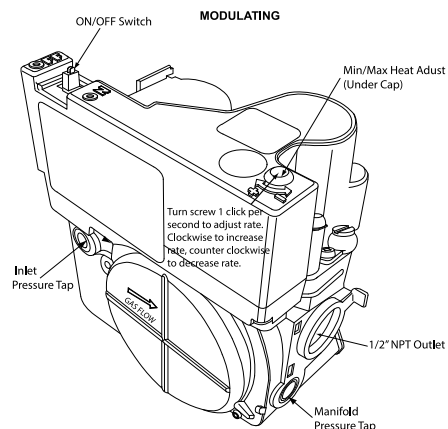

Fig. 64 – Gas Valve without Tower Pressure Ports
9. To adjust the Maximum Heat manifold pressure, slowly turn adjusting screw counterclockwise to decrease manifold pressure or clockwise to increase manifold pressure. Turn adjustment no more than one click per second until you obtain the required manifold pressure, see Fig. 64.
4. To adjust the Minimum Heat manifold pressure, slowly turn adjusting screw counterclockwise to decrease manifold pressure or clockwise to increase manifold pressure. Turn adjustment no more than one click per second until you obtain the required manifold pressure, see Fig. 64.